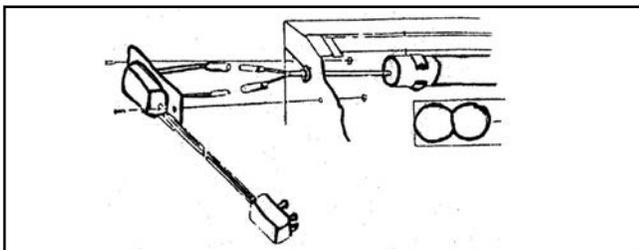

Figure 2. Light assembly.
2. Connect electrical wires and install electrical box with screws (see Figure 2).